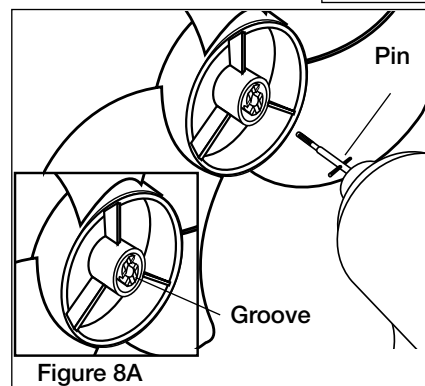
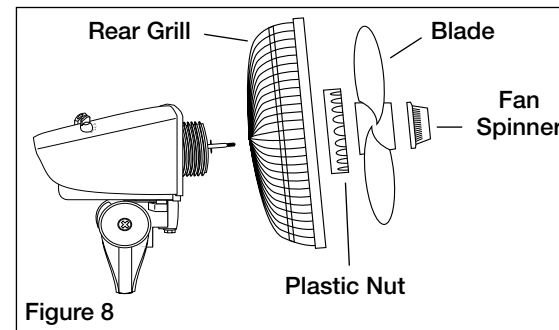

Figure 8A
Figure 8
9. Fully seat Rear Grill and secure with Plastic Nut turning Clockwise. Slide Blade onto Motor Shaft. (Figure 8) Align Groove on blade hub with Pin on motor shaft. (Figure 8A)